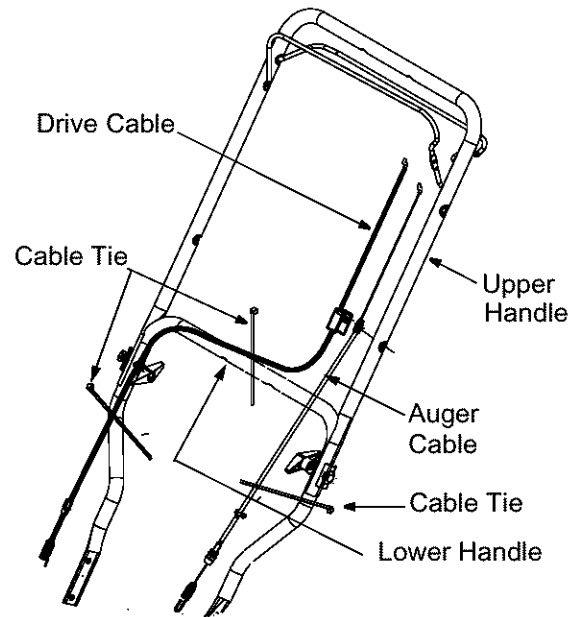

Figure 5
2. Three cable ties have been used to loosely tie the two control cables to the lower handle. Two of these cable ties are on each arm, and third on the top cross bar of the lower handle. Tighten these cable ties to secure the cable to the lower handle. See Figure 5 .